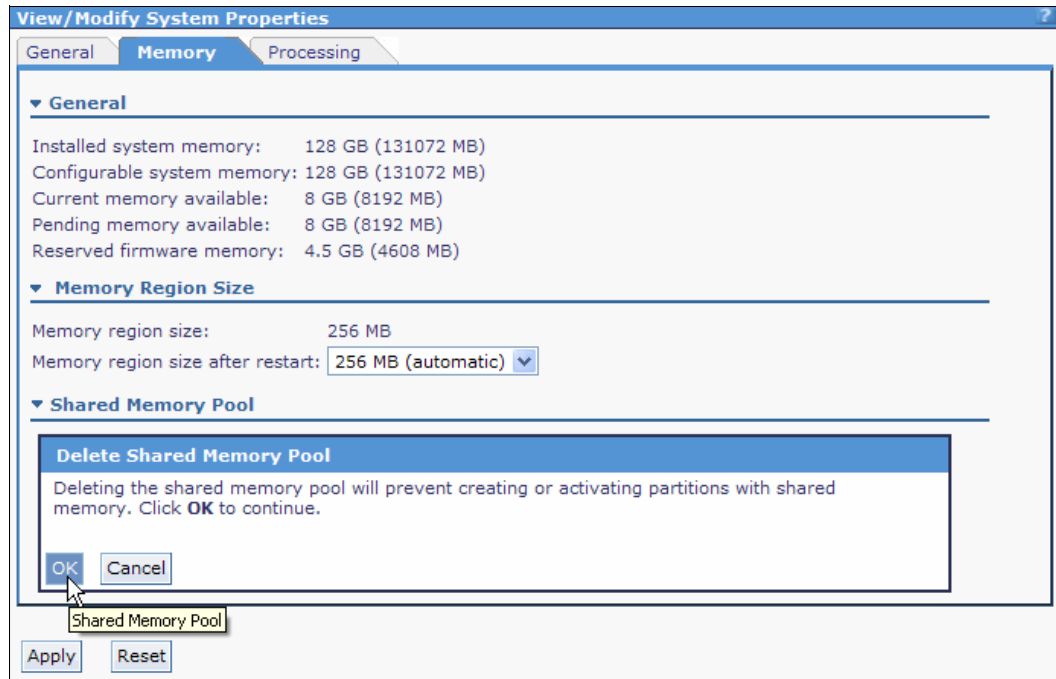

Figure 4-28 Shared memory pool deletion warning
3. A confirmation window opens, as depicted in Figure 4-28. Click **OK** to continue.